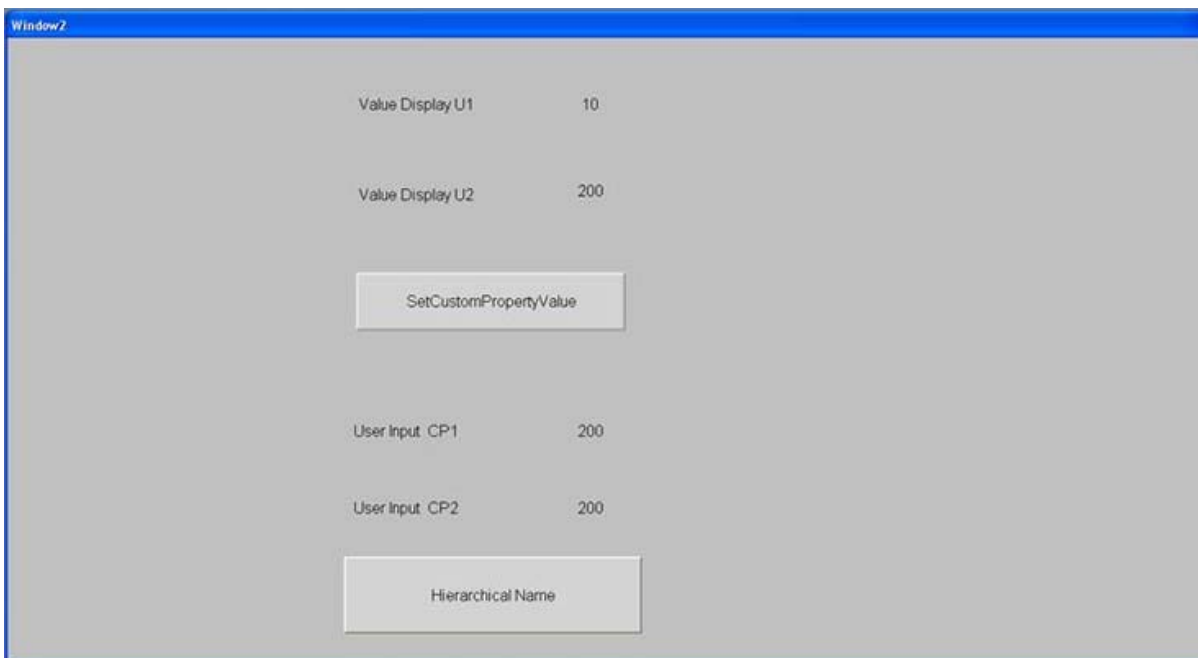

FIGURE 12: VALUE CHANGES
14. Open ObjectViewer and change the value of **me.U2** in Tank1_002 to **200**. The value changes in WindowViewer for the CP1 and CP2 (Figure 12 below) because